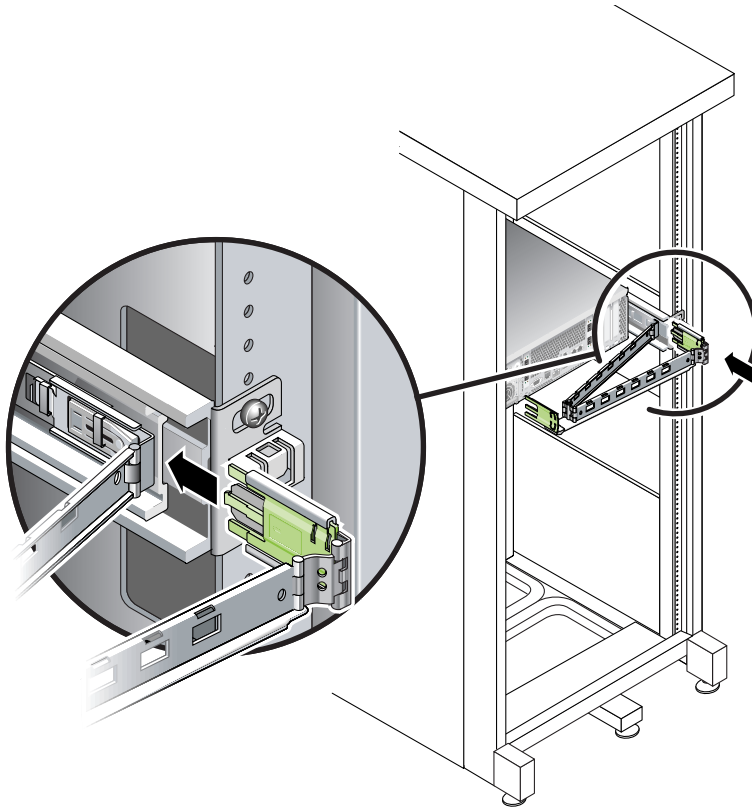

FIGURE 2-20 Attaching the Outer CMA Connector
3. Insert the larger extension into the end of the right sliding rail (FIGURE 2-20).